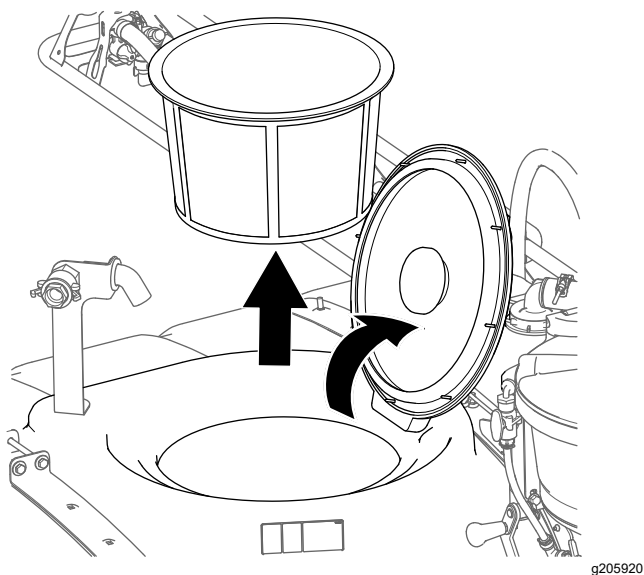

Figure 26
1. Open the lid of the spray tank and remove the filter basket (Figure 26).